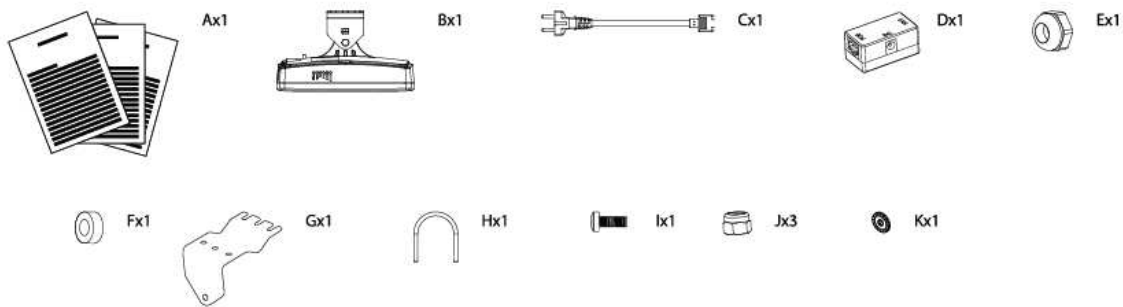

Figure 1 – APC 5M-18 V2 Package Contents
Step 3. Attach mounting hardware (item C in the *Figure 1 – APC 5M-18 V2 Package Contents*) to the unit and tighten with the nut and bolt (items I and J in the *Figure 1 – APC 5M-18 V2 Package Contents*).
Step 4. For pole mounting attach APC 5M-18 V2 on pole with U bolt (items H and J in the *Figure 1 – APC 5M-18 V2 Package Contents*) as shown in picture below:
Step 5. Connect Ethernet cable into the APC 5M-18 V2 then insert a rubber gasket (item F in the *Figure 1 – APC 5M-18 V2 Package Contents*) into CAT5 Ethernet connector gland and tighten with gland cap (item E in the *Figure 1 – APC 5M-18 V2 Package Contents*) as displayed below: